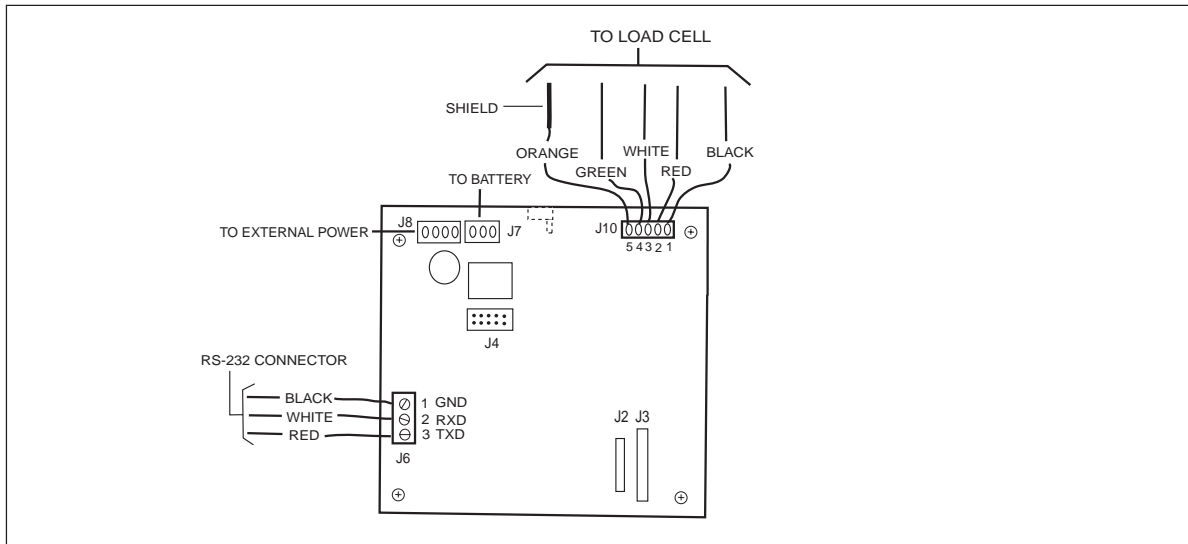

Figure 3-5. Trooper Count Scale RS Connector and Loadcell Connector Wiring.
3. Carefully remove the wires coming from J6 which is the RS232 connector. See Figure 3-5 for wire color and locations.
2. Disconnect cable connector from J10 which is connected to the Load Cell. See Figure 3-5 for wire color and locations.